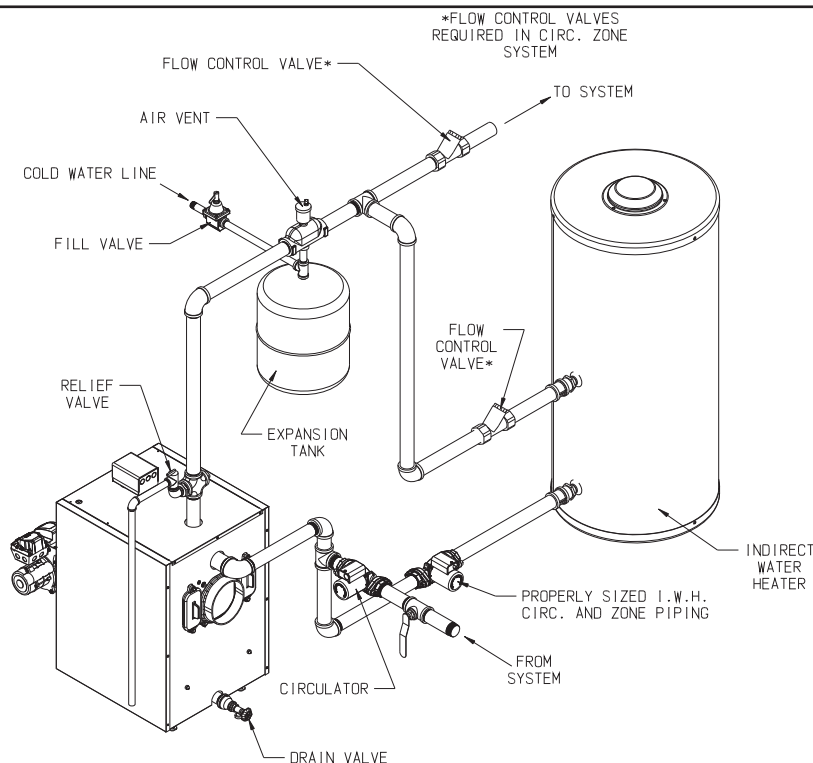

FIGURE 8.3: INDIRECT WATER HEATER BOILER SIDE PIPING
- 1) Indirect Water Heaters - Figure 8.3 shows typical indirect water heater piping. Boiler piping is the same as for any two zone system. Figure 8.3 shows circulator zoning, which is usually preferred for indirect water heaters. Size the circulator and indirect water heater piping to obtain the boiler water flow through the indirect water heater called for by the indirect water heater manufacturer.